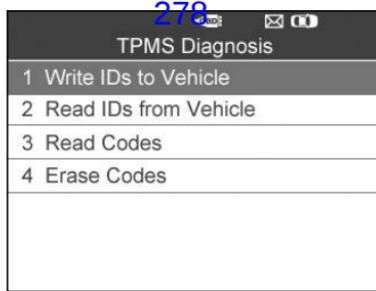

Figure 4.21
- 1) From **TPMS Diagnosis** Menu, use the **UP/DOWN** scroll button to select the **Read IDs from Vehicle**, and press the **Y** button (Figure 4.21).
- 1) From **TPMS Diagnosis** Menu, use the **UP/DOWN** scroll button to select the **Read Codes**, and press the **Y** button (Figure 4.21).
- From **TPMS Diagnosis** Menu, use the **UP/DOWN** scroll button to select the **Erase Codes**, and press the **Y** button (Figure 4.21).